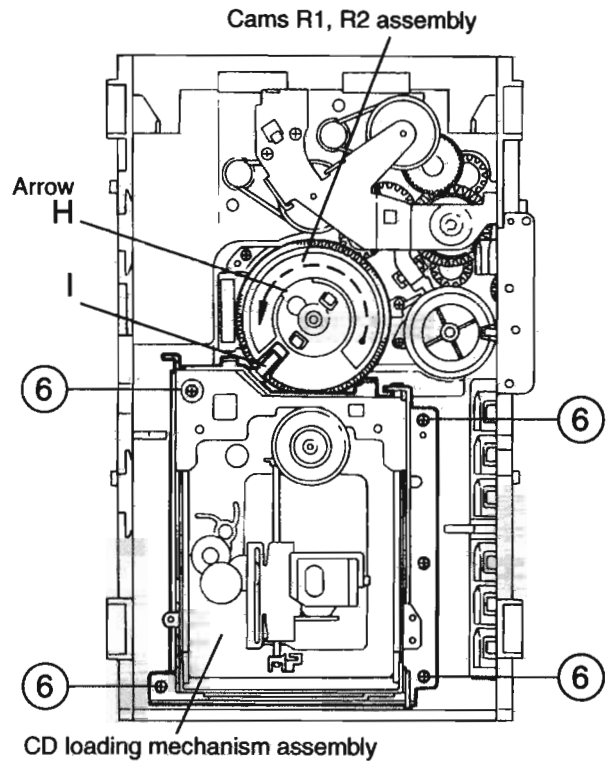

Fig.10
Removing the CD loading mechanism assembly(See Fig.10)
1. While turning the cams R1 and R2 assembly in the arrow direction "H" , align the shaft "I" of the CD loading mechanism assembly to the position shown in 2. Fig.10.